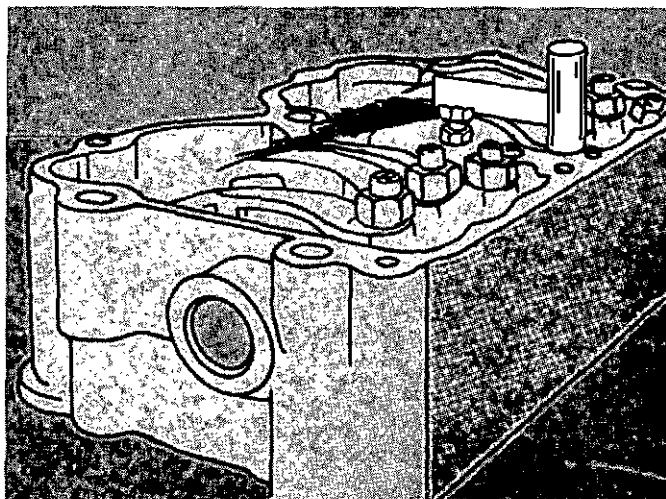

Fig. 3-8. Use The ST-1182 To Adjust The Spray Nozzles.
Note: The 80 degree tilt engines use oil spray nozzles instead of setscrews in the rocker lever housings. The nozzles direct an oil spray to the ends of the rocker levers as shown in Fig. 3-8.
3. Install the Part No. ST-1182 Spray Nozzle Locator so that the tube part of the tool is on the breather vent plug and the blade of the tool is in the slot in the spray nozzle, Fig. 3-8.